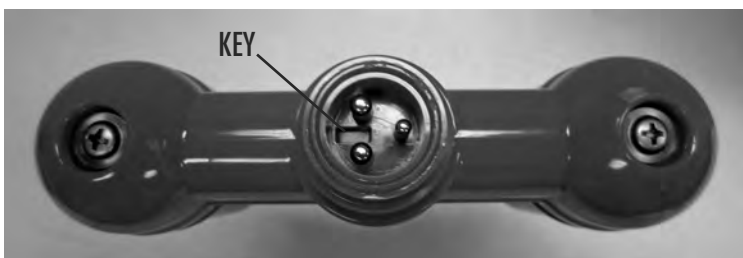

FIGURE S2
**NOTE:** The connections are designed to be distinctly different to prevent the wrong end of the cord from being plugged into the wrong end of the swivel (See Figures S2 and S3).